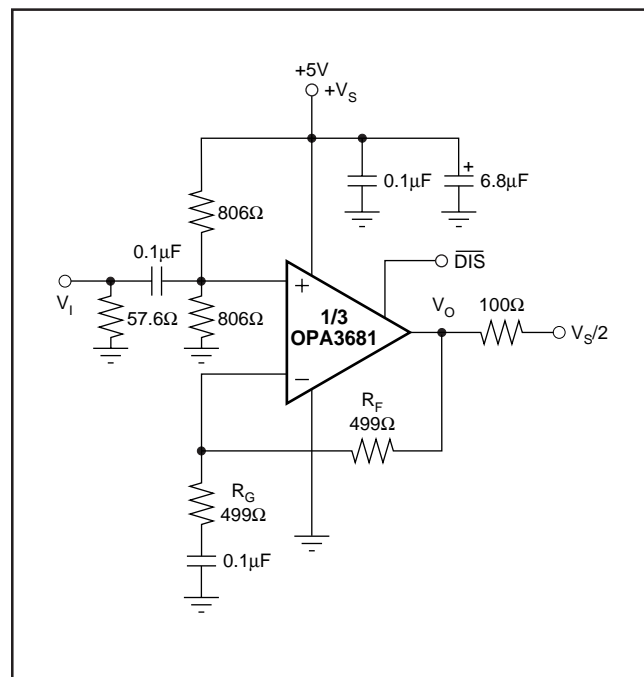

FIGURE 2. AC-Coupled, G = +2, Single Supply, Specification and Test Circuit.
Figure 2 shows the AC-coupled, gain of +2, single-supply circuit configuration used as the basis of the +5V Specifications and Typical Performance Curves. Though not a “rail-to-rail” design, the OPA3681 requires minimal input and output voltage headroom compared to other very wideband current-feedback op amps. It will deliver a 3Vp-p output swing on a single +5V supply with greater than 150MHz bandwidth. The key requirement of broadband single-supply operation is to maintain input and output signal swings within the usable voltage ranges at both the input and the output. The circuit of Figure 2 establishes an input midpoint bias using a simple resistive divider from the +5V supply (two 806Ω resistors). The input signal is then AC-coupled into this midpoint voltage bias. The input voltage can swing to within 1.5V of either supply pin, giving a 2Vp-p input signal range centered between the supply pins. The input impedance matching resistor (57.6Ω) used for testing is adjusted to give a 50Ω input match when the parallel combination of the biasing divider network is included. The gain resistor (RG) is AC-coupled, giving the circuit a DC gain of +1, which puts the input DC bias voltage (2.5V) on the output as well. Again, on a single +5V supply, the output voltage can swing to within 1V of either supply pin while delivering more than 75mA output current. A demanding 100Ω load to a midpoint bias is used in this characterization circuit. The new output stage used in the OPA3681 can deliver large bipolar output currents into this midpoint load with minimal crossover distortion, as shown by the +5V supply, 3rd harmonic distortion plots.